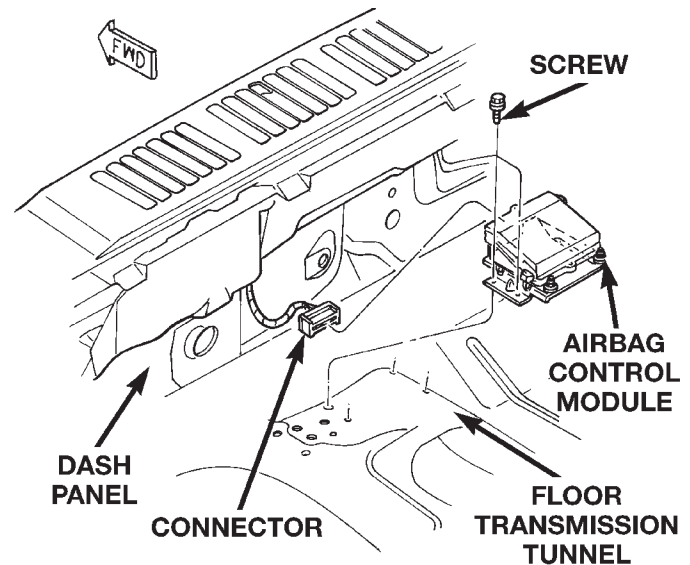

Fig. 16 Airbag Control Module Remove/Install
(4) Remove the four screws that secure the Airbag Control Module (ACM) mounting bracket to the floor pan transmission tunnel (Fig. 16).